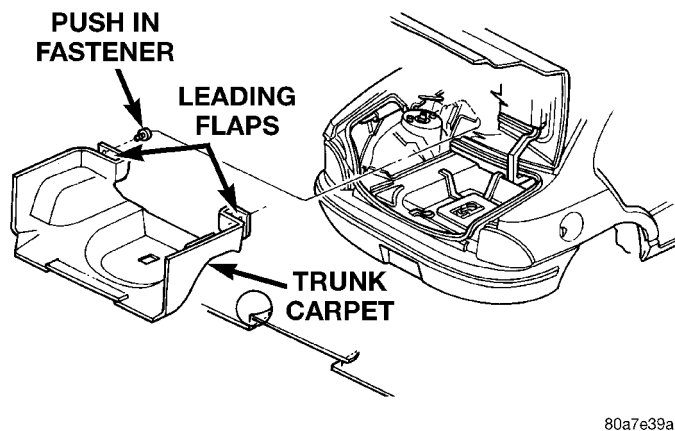

Fig. 78 Trunk Carpet
- (1) Remove push in fasteners holding carpet to shelf panel. Fasteners are accessed from inside the vehicle (Fig. 78).
- (2) Pull out leading flaps of the carpet through the opening from the shelf panel.
- (3) Pull carpet from under the springs.
- (4) Remove trunk carpet from vehicle.